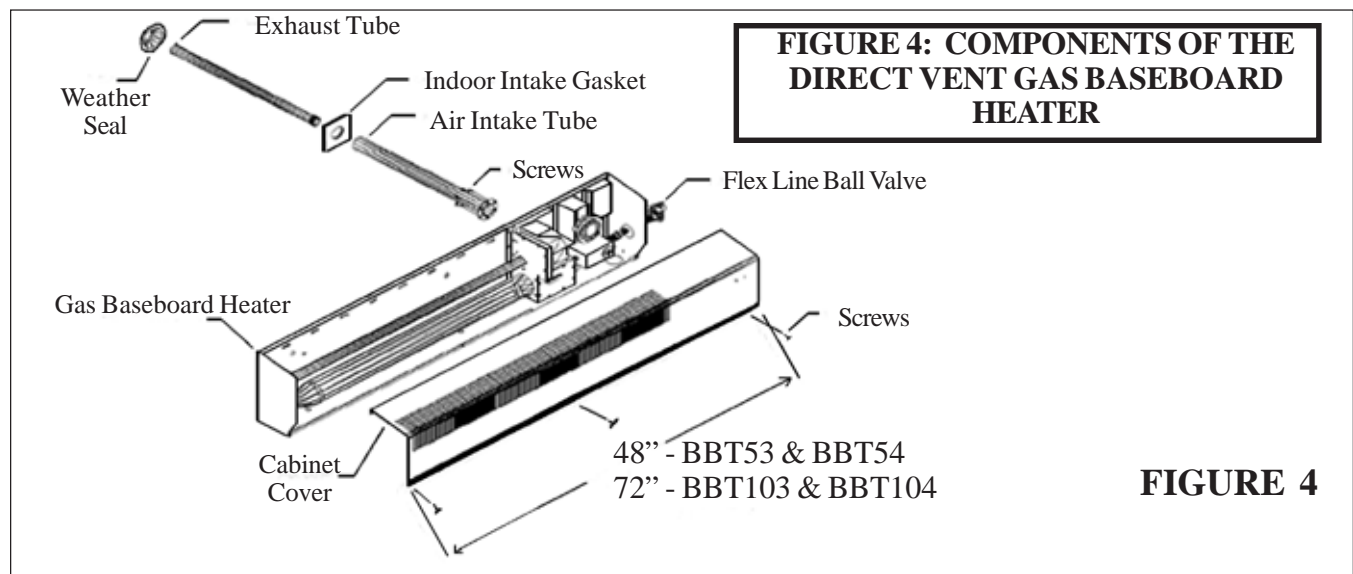

FIGURE 4
- b) Remove the cover of the baseboard heater's cabinet by removing the screws at the bottom front of the cover. (See Figure 4.)